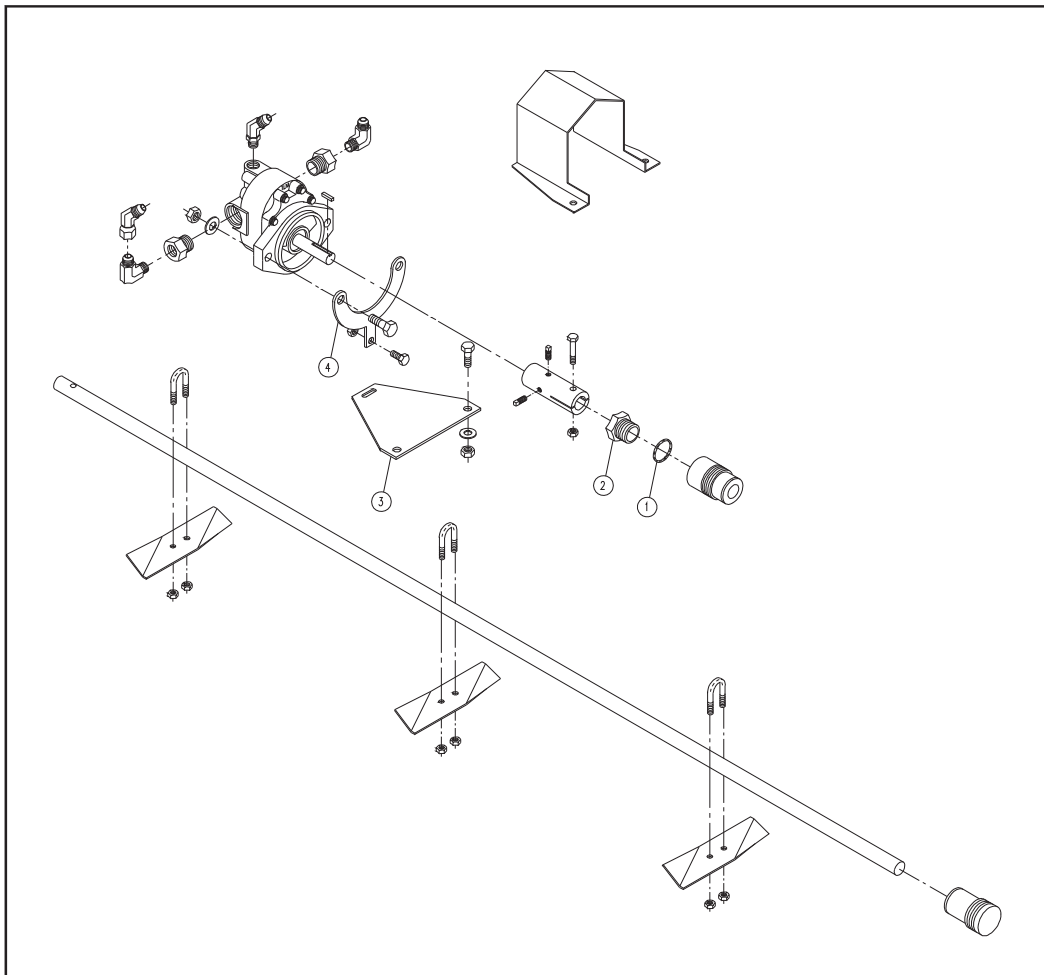

FIG 5.46
The gland packing (fig. 5.46, item 1) may require adjustment during start-up. If adjustment is required, shut off the agitation system and adjust the gland nut (fig. 5.46, item 2).
The agitator motors for the polyethylene tanks are held in place with a motor mount yoke (fig. 5.46, item 3). The yoke tap must extend through the motor mounting plate (fig. 5.46, item 4). This allows the motor to float with the agitator shaft.